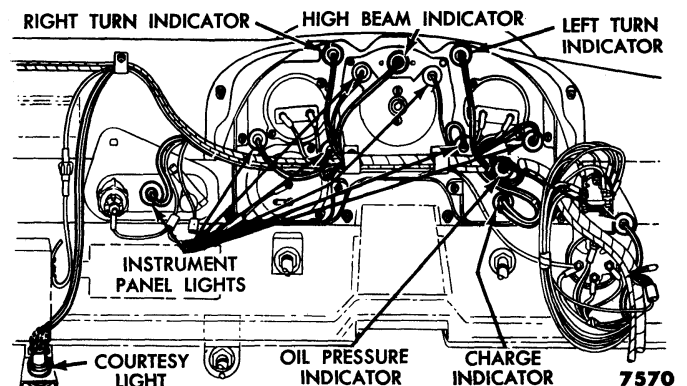

Fig. 12—Instrument Panel Lights
(5) **INSTRUMENT LIGHTS.** The instrument panel light bulbs can be replaced by pulling out the individual light sockets from the rear of the panel (fig. 12).